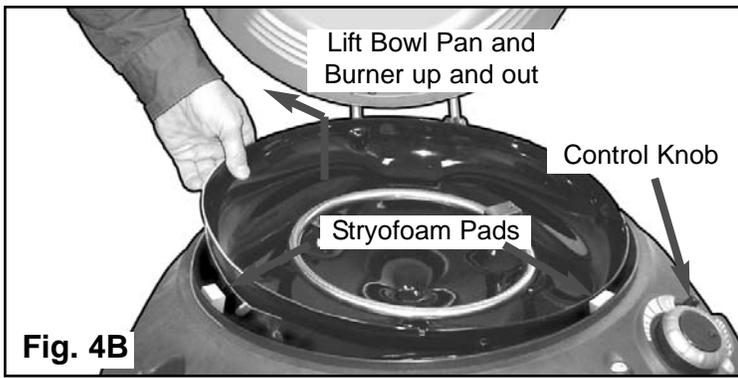

Fig. 4B
STEP 5) Unlatch the hood and remove the Grid. Disconnect the Electrode wire underneath the bowl. **(FIG. 4A)** At a point directly opposite the control knob, lift up the Bowl Pan and burner and remove from the grill. **(FIG. 4B)** Remove the styrofoam pads inside the bowl area and any that fall toward the middle. Remove any other accessories that may be packed inside. Reinstall the Bowl Pan. Insert the burner tube and electrode wire through the hole in body. The burner guide should engage the burner tube over the valve nozzle. Check visually to make sure it does engage. Reconnect the electrode wire. Replace the Cooking Grid. **(See page 16)**